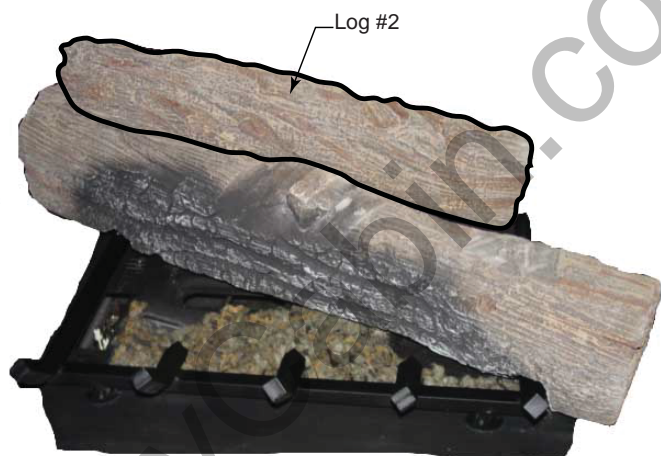

Figure 61
2. Place log #2 so the fat end of the log rests on the 2nd tine of the grate (opposite the pilot) and the thin, right end of the log sits on top of the key provided on the end of log #1 closest to the pilot. *Figure 61*